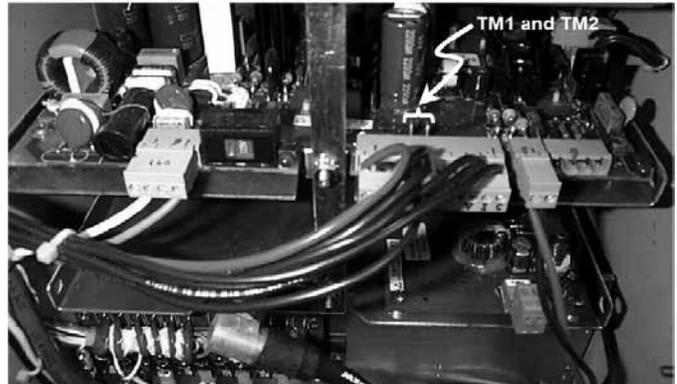

Figure 42.
1. Open the rear door of the Form 6 pole-mount control cabinet and locate terminals TM1 and TM2 on the power supply circuit board (Figure 42).